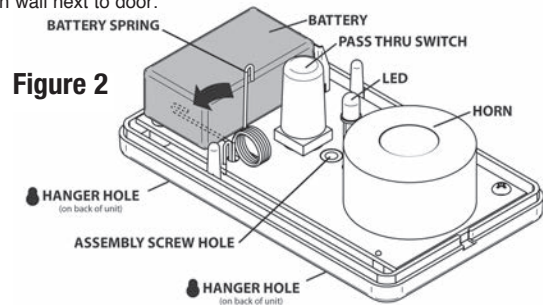

Figure 2
1. INSTALLING THE 9V BATTERY (FIG. 2)
- Remove the assembly screw from the back of the door alarm and remove the top cover. (See Figure 2)
- Pull down the battery spring and install the 9v battery (see figure 2).